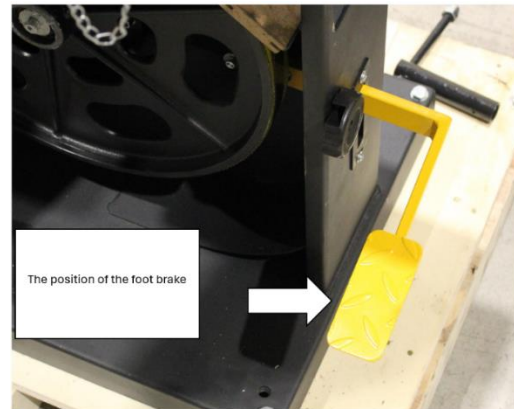

Figure 8: Engaging the Foot Brake.
The foot brake Fig. 8 (A) provides an essential safety feature by allowing you to
- Depress the foot brake lever see (Fig. 8).